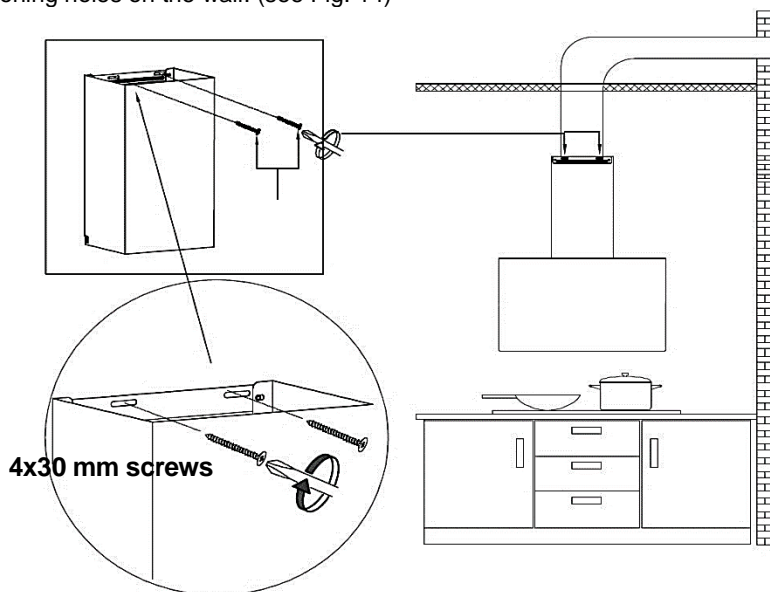

Fig. 14
13. Use two 4*30 mm Screws to lock the Lower Chimney Bracket into the corresponding positioning holes on the wall. (see Fig. 14)